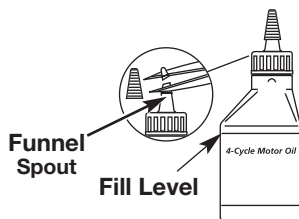

Fig. 9
Your unit is supplied with one 3.04 fluid oz. (90 ml) bottle of SAE 30 SF, SG, SH oil (Fig. 9).
**NOTE:** Save the bottle of oil. It can be used to measure the correct amount during future oil changes (Fig. 9). See *Changing the Oil*.
1. Unscrew the top of the bottle of oil and remove the paper seal covering the opening. Replace the top. Next, cut the tip off the funnel spout (Fig. 9).